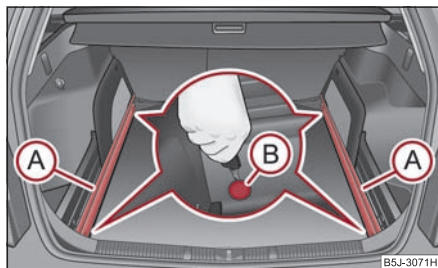

Fig. 84 Luggage compartment: Slacken check points
- Slacken the check points (B) on the carrier rails using the vehicle key or a flat screwdriver ⇒ fig. 84.